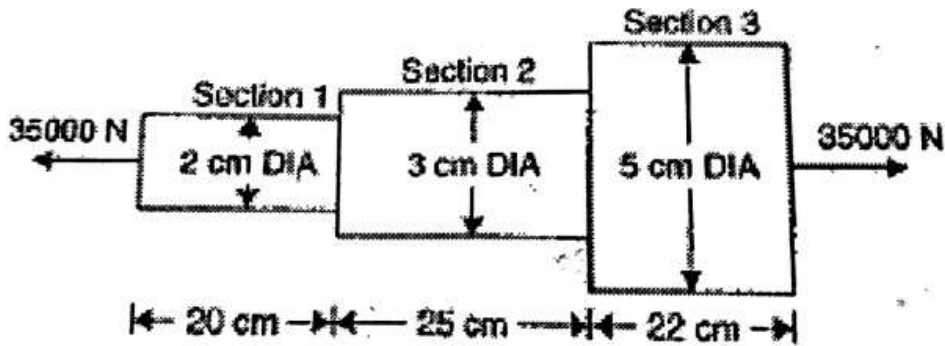

Fig. 2
- Q.3 a) An axial pull of 35000 N is acting on a bar consisting of three lengths as shown in the fig.2. If the young's modulus is $E = 2.1 \times 10^5 \text{ N/mm}^2$. determine: